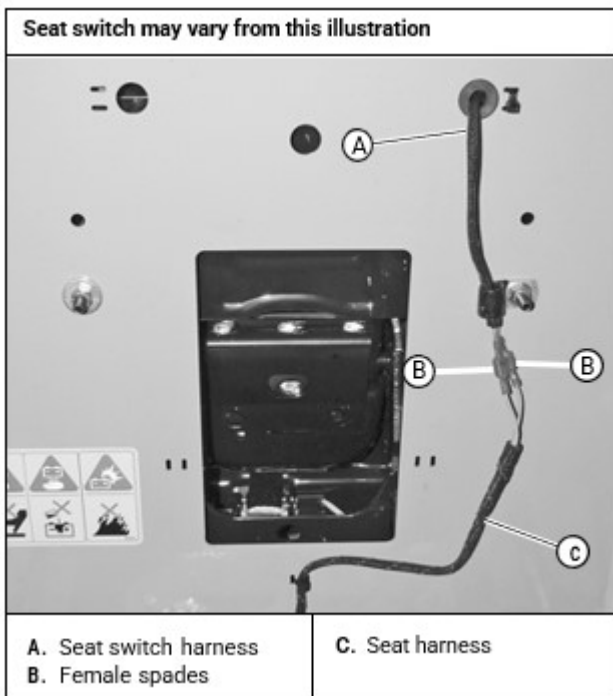

Figure 17
3. Raise the seat platform and disconnect the harness from the seat switch harness. Bypass the seat switch by connecting the two (2) harness female spades together. [Figure 17]